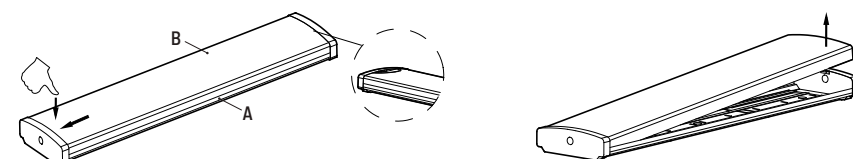

Figure 1
Press one end of diffuser (B) and slide the diffuser (B) to the same side, ensure the diffuser is open from other side (A) and remove the diffuser. (Figure 1)